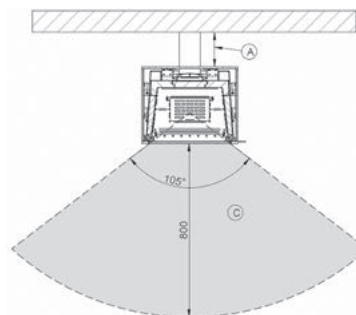

Fig. 4a
The following table documents the permissible safety distances. Using the diagrams (Figs. 4a-4f), match the mounting situation, taking into account the specified distances that need to be complied with.
1. For installation against a straight wall, the following distances from walls must be maintained: a minimum distance of 160 mm must be maintained behind any combustible components (Fig. 4a)